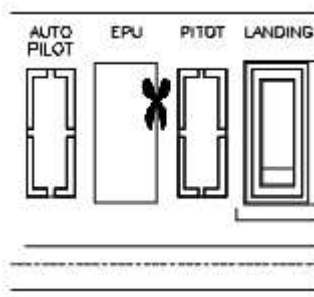

Figure 11. Instrument panel (step 17).
17. Cut away the placard around the EPU switch. See Figure 11.